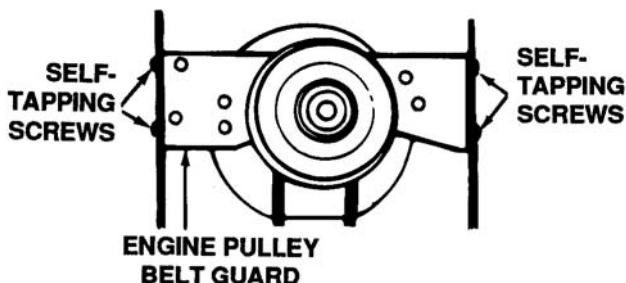

Figure 7-27. Location of Belt Guard
- c. Remove the belt keeper pins from the engine pulley belt guard. Refer to Figure 7-27.
- e. Remove the two self-tapping screws on each side of the frame which hold the engine pulley belt guard to the frame. See Figure 7-27. Remove the engine pulley belt guard by slipping it forward and down.